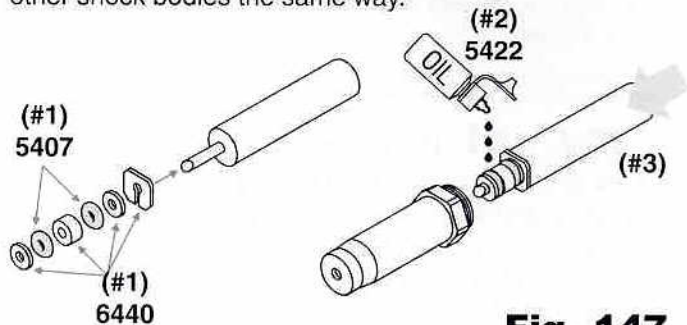

Fig. 147
Figs. 147 & 148 (1) Install the #5407 and #6440 parts onto the #6429 tool tip as shown in fig. 147, found in the large shock bag. (2) Remove the #5422 30 wt. oil from bag #7-11. Add 3-4 drops to the inside of the shock body and to the shock seal parts. (3) Insert the tool tip into the shock body all the way. Push **easily** until the parts snap into place. (4) Check the tool height in fig. 148. The right shock shows just before snapping parts in place, the left shows after. (5) If your shocks do not snap together easily, check the parts for burrs again. (6) Assemble the other shock bodies the same way.